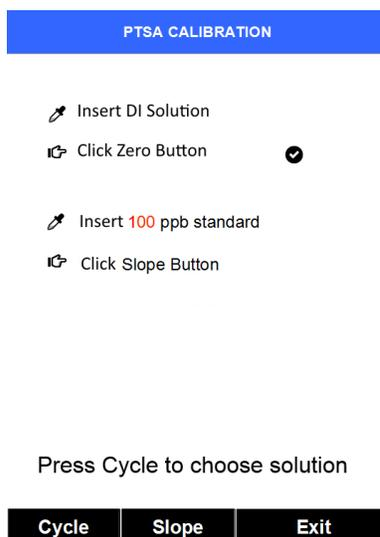

Figure 6
- 7) After successful zero set, a checkmark symbol will appear next to “Click Zero Button” to confirm success. The screen will also update to show the Slope steps, as in Figure 6. The Cycle command replaces Zero command on the black bar and the possible PTSA selection is displayed in red. The default is 100 ppb.